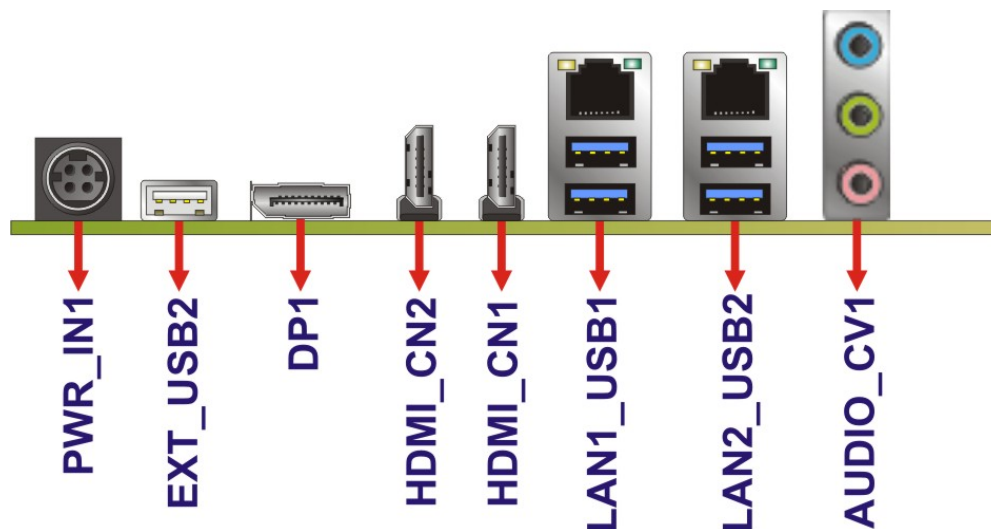

Figure 3-26: External Peripheral Interface Connector
Figure 3-26 shows the gKINO-DMF external peripheral interface connector (EPIC) panel.
CN Location:	See Figure 3-26
- CN Location:** See **Figure 3-26**
CN Location: See **Figure 3-26**